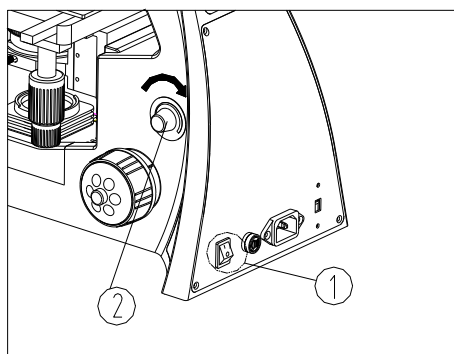

Fig. 16
3.2.1 Brightness Adjustment (Fig.16)